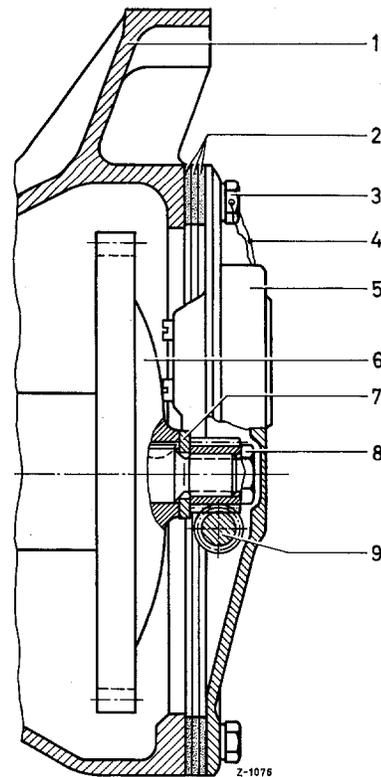

Figure 01-11/4
3. Unscrew the hex nut M 12 fixing the pump drive gear to the shaft and install the worm gear (8). In group I make sure that the worm gear is installed with the lock washer (7) (see Figure 01-11/4) and in group II the worm gear is mounted with spacer (10) and lock washer (7) (see Figure 01-11/2).
4. If the installed timing housing cover is without fit boreholes (2) (see Figure 01-11/3), carefully grind off the two dowel pins (3) in the protecting cover (see Figure 01-11/3). During this operation the drive gear of the operating time indicator must be protected against dirt.
5. Before installing the protecting cover put a few drops of oil to the driving gears. **Caution!** On the engines of the group I three gaskets (2) 1.5 mm thick each must be used (see Figure 01-11/4), and on the engines of the group II only one gasket (2) 1.5 mm thick, so that the proper distance is obtained between the operating time
indicator and the worm gear. On engines of the group I the protecting cover must be fixed with 18 mm long screws, because the sealing is 3 mm thicker. Standard screws 15 mm long can be used for the engines of the group II. The two screws with the holes for the seal wire are installed on top and at the right-hand side in both cases (see Figure 01-11/1).
**Note:** The adjusting of the mesh and the grinding of the dowel pins on the protecting cover is not applicable if the timing housing cover without fit boreholes is exchanged for a new one according to Part No. 636 010 20 17 or 636 010 16 17 with fit boreholes and reinforced bearing. The proper gearing is guaranteed by the dowel pins of this version (see Figure 01-11/3).
8. Guard the two fixing screws with seal wire and lead-seal (see Figure 01-11/1).